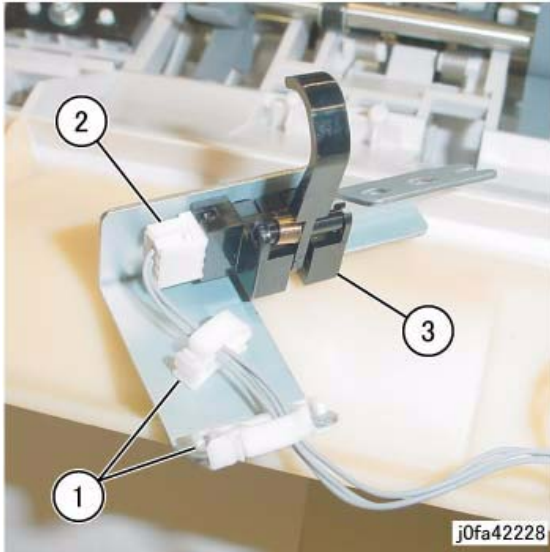

Figure 4 Removing the Compiler Exit Sensor
9. Remove the Compiler Exit Sensor (Figure 4):